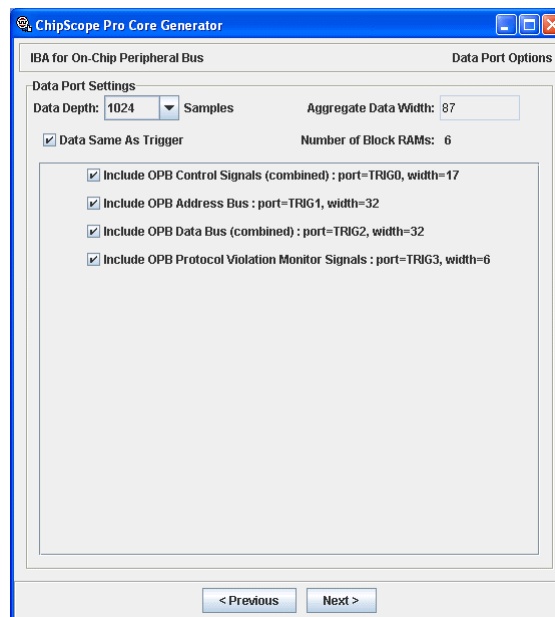

Figure 2-23: IBA/OPB Core Data Same As Trigger Options
- **Data Same as Trigger (Figure 2-23)**